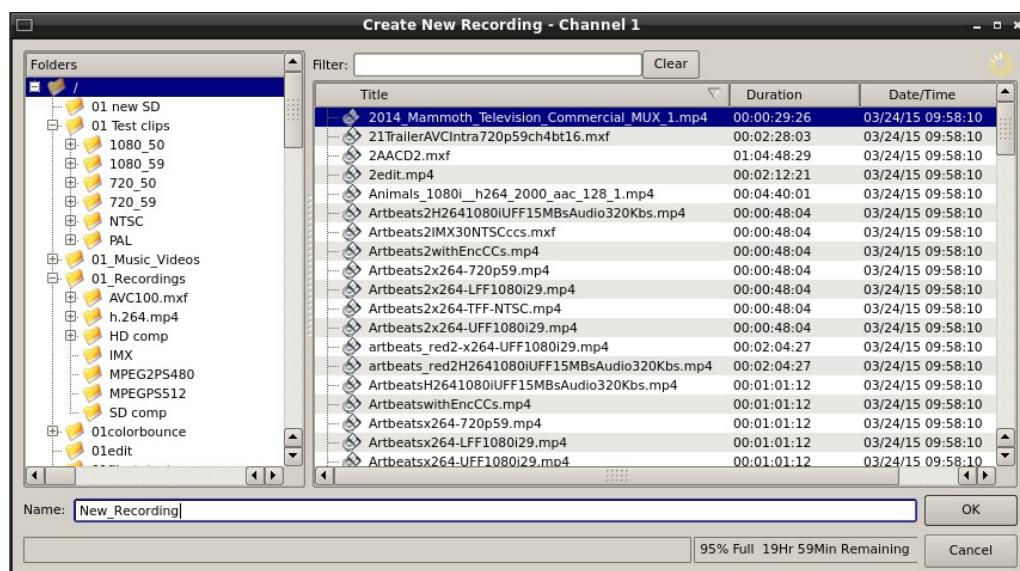

Figure 9 - Channel 1 Create New Recording dialog
- From the Record Channel Transport Window, Select FILE>NEW. The dialog of Figure 9 below appears.